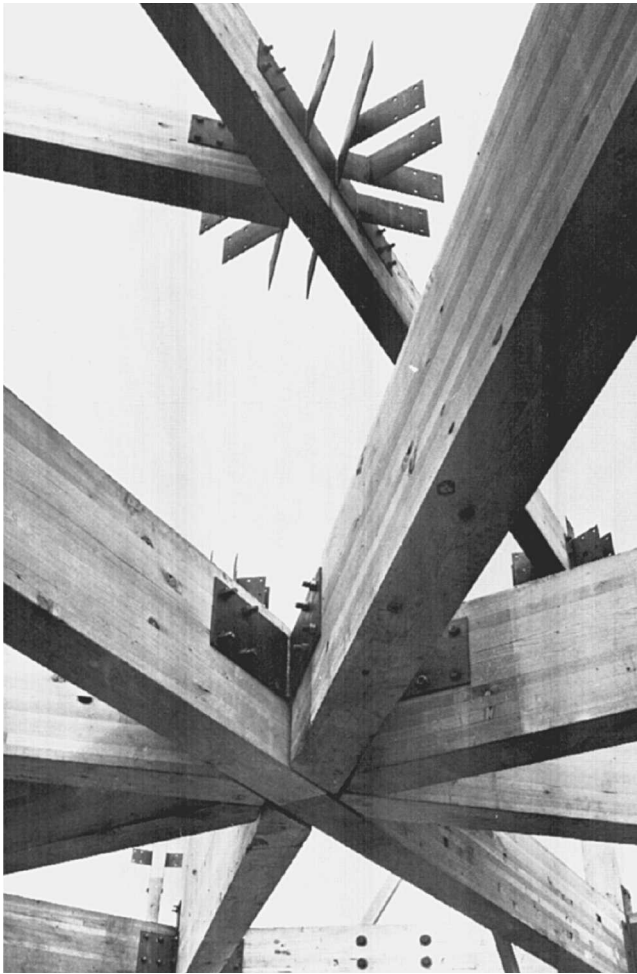

Fig. 16-80 Special brackets are often used to hold beams and other parts together.
- The second method is used more often for contemporary housing. In this method, special metal or wooden brackets are used (Fig. 16-80). There are many types of bracket devices. They hold two or more pieces together and prevent slipping and twisting. They should be bolted rather than nailed. Nails will not hold the heavy pieces. Although lag bolts may be used, through bolts are both stronger and more permanent.